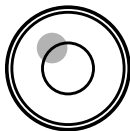

Fig.4.4
- 6) When using the spherical head tripod, slightly loosen the centering screw, hold the base plate ⑦ in both hands, and slide it across the tripod head until the bubble is in the proximity of the circular level ⑤. (Fig.4.4)